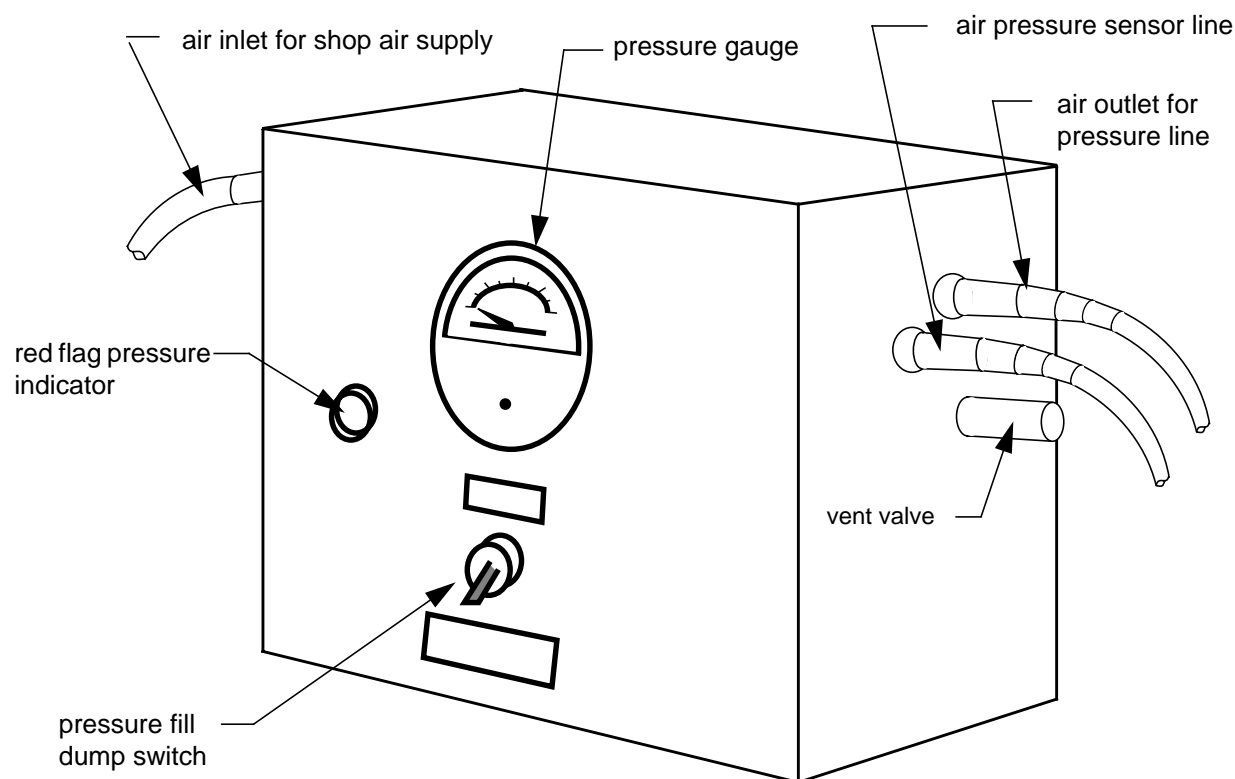

Figure 1 - Pressure Test Rig
4.2.1 Pressure test rig, tool #4557000001-003-141, capable of pressurizing to 3 psig (see Figure 1).